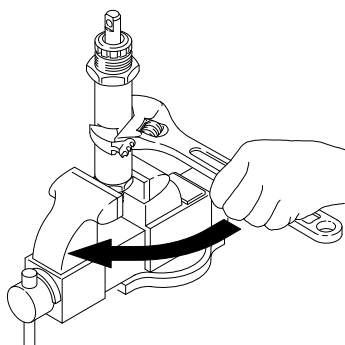

Fig. 16
1. Loosen the packing nut (16) and plug (5). Unscrew the cylinder from the intake valve. See Fig. 16.